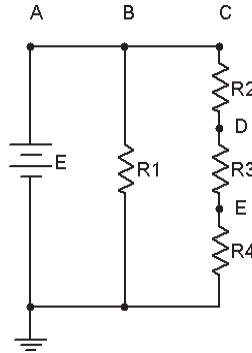

Figure 7.2
3. Consider the circuit of Figure 7.2.  $R2, R3$  and  $R4$  create a series sub-network. This sub-network is in parallel with  $R1$ . By observation then, the voltages at nodes A, B and C should be identical as in any parallel circuit of similar construction. Due to the series connection, the same current flows through  $R2, R3$  and  $R4$ . Further, the voltages across  $R2, R3$  and  $R4$  should sum up to the voltage at node C, as in any similarly constructed series network. Finally, via KCL, the current exiting the source must equal the sum of the currents entering  $R1$  and  $R2$ .
4. Build the circuit of Figure 7.2 with  $R1 = 3.3\text{ k}$ ,  $R2 = 2.2\text{ k}$ ,  $R3 = 4.7\text{ k}$ ,  $R4 = 6.8\text{ k}$  and  $E = 20\text{ volts}$ . Using the series and parallel relations noted in Step 3, calculate the voltages at points B, C, D and E. Measure these potentials with the DMM, determine the deviations, and record the values in Table 7.3.
- Build the circuit of Figure 7.2 in a simulator. Using the DC Operating Point simulation function, determine the voltages at nodes B, C, D and E, and compare these to the theoretical and measured values recorded in Table 7.3.
4. How would the currents through R1 and R2 in Figure 7.2 change if a fifth resistor equal to 10 k was added in series with R1? What if this resistor was added in parallel with R1?